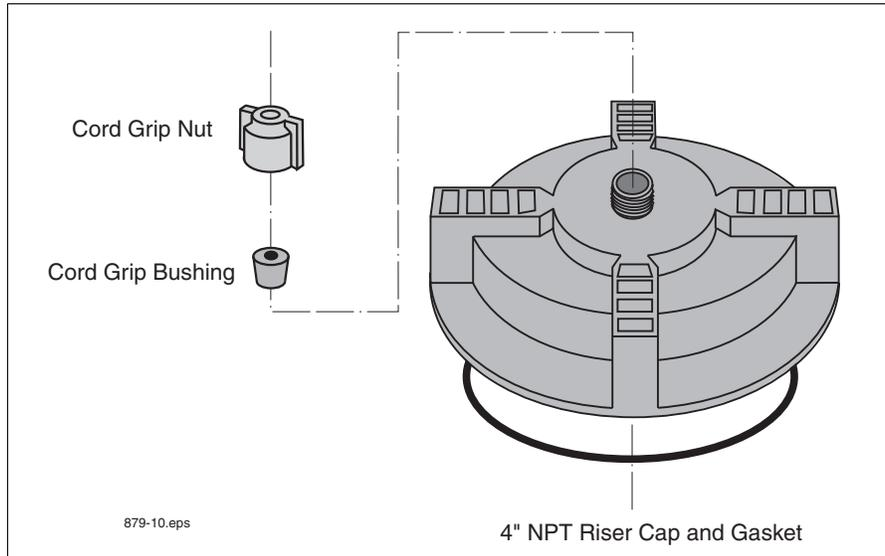
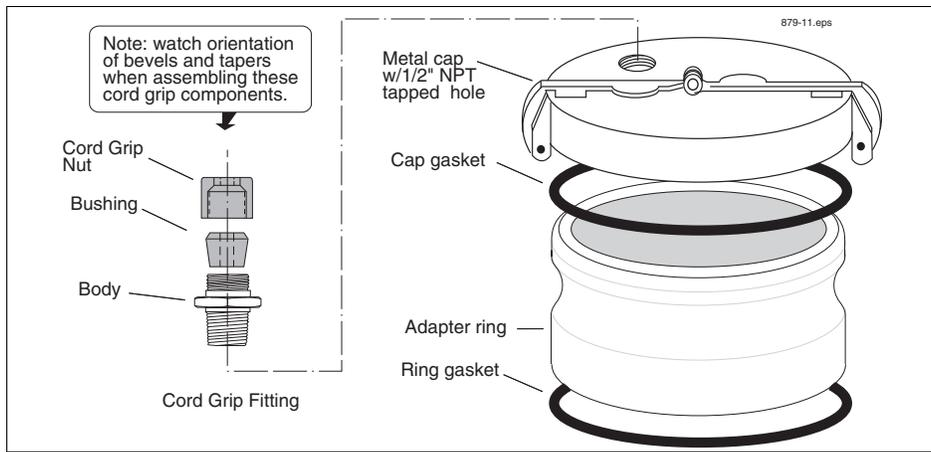
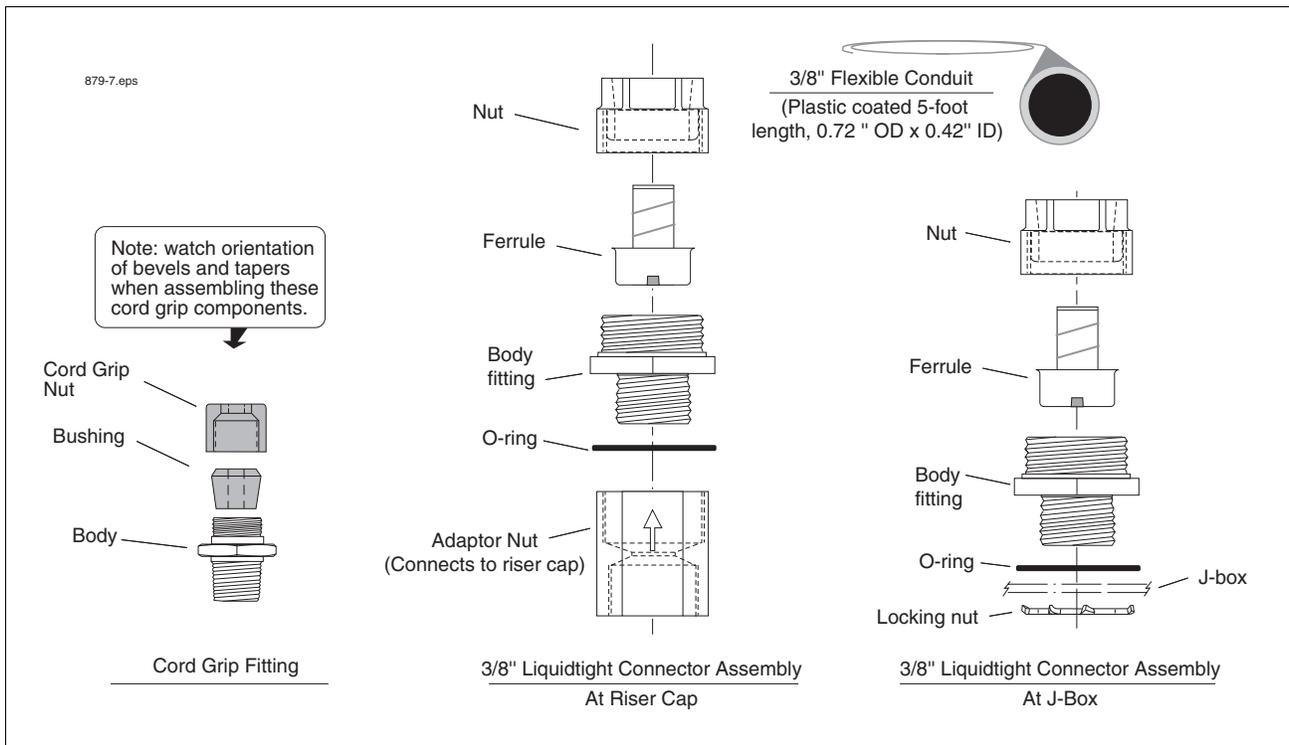

Figure 4. Cap And Cord Grip Kit
Figure 5. Metal Cap And Ring Kit
Figure 7. AST Installation Kit
This Riser Cap kit (Table 3) contains a non-metallic cap which screws onto the 4" NPT riser (Figure 4). The cap comes drilled and tapped with a cord grip.
This riser cap kit contains an adapter ring which screws onto the 4" NPT riser and a quick-release metal cap which clamps onto the ring (Table 4). The cap comes drilled and tapped with a cord grip (Figure 5).
This kit is recommended when installing Mag Plus probes into an above ground storage tank (AST). This kit contains a length of flexible conduit, connectors, etc., for easier probe access. The kit contents are listed in Table 5 and shown in Figure 7.
1. If using the one piece cap (see Figure 4 on page 8), push the end of the probe cable through the cord grip bushing and nut on the cap, leaving a minimal amount of slack between the probe and cap. Screw the cap onto the riser by hand until the gasket first contacts the pipe. Then lightly tap the cap with a hammer to tighten it an additional 3/4 turn. Go to Step 3.
If installing the metal cap and adapter ring (see Figure 5 on page 9), screw the ring onto the 4" riser until the gasket contacts the pipe, then use a torque wrench attached to an appropriate strap wrench (K-D Specialty tools nylon strap oil filter wrench, or equivalent) and tighten the ring to 35 - 45 ft-lbs. Push the cable through the metal cap and cord grip, then clamp the cap onto the adapter ring.
1. If using the one piece cap (see Figure 4), push the end of the probe cable through the cap and cord grip bushing, leaving a minimal amount of slack between the probe and cap. Discard the cord grip nut and attach the Adapter Nut from the AST kit to the cap (see Figure 7). Tighten the Adapter Nut until the cable is held firmly. Go to Step 3.
2. If installing the metal cap and ring (see Figure 5), screw the ring onto the 4" riser until the gasket contacts the pipe, then use a pipe wrench to tighten it an additional 3/4 turn. Using UL-classified pipe sealant (suitable for the fuels involved), screw the cord grip fitting into the tapped hole and tighten. Place the cord grip bushing in the fitting. Discard the cord grip nut and loosely screw the Adapter Nut from the AST kit onto the cord grip fitting (see Figure 7). Push the cable through the metal cap, bushing, and Adapter nut, then clamp the cap onto the ring. Make sure there is a minimal amount of slack between the probe and cap, then tighten the Adapter Nut until the cable is held firmly.
3. Next assemble the liquid tight connectors on both ends of the flexible conduit as shown in Figure 7. Push the cable through the flexible conduit assembly and into the J-box. Connect the flexible conduit assembly to the Adapter Nut on one end and the J-box on the other.